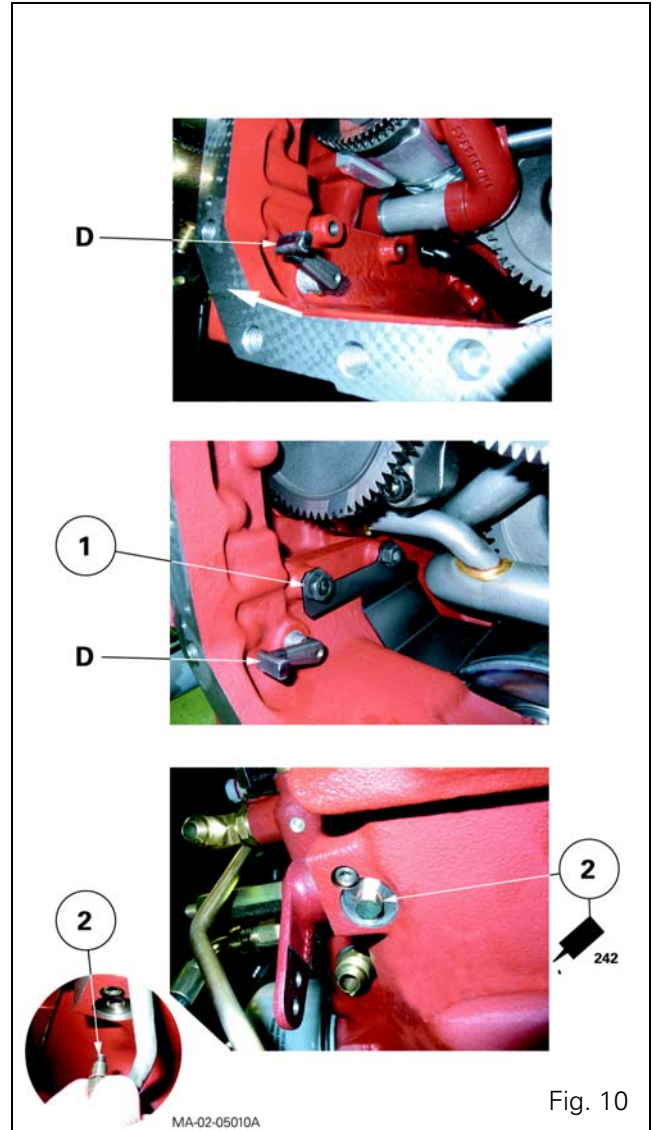

Fig. 10
The rotation of the control finger "D" of the creeper gears is limited by the presence of the studs and nuts assembly (1) in the centre housing. (Tractors with closed centre hydraulic equipment - Fig. 10).
**39.** Pull the pin (2) outwards (Fig. 2) and direct the "D" finger towards the front of the centre housing (Fig. 10).
Engage the "D" finger (Fig. 10) in the creeper gear fork and position the seal (2) (Fig. 10) after lightly smearing it with Loctite 242 or equivalent. Moderately tighten the screw.